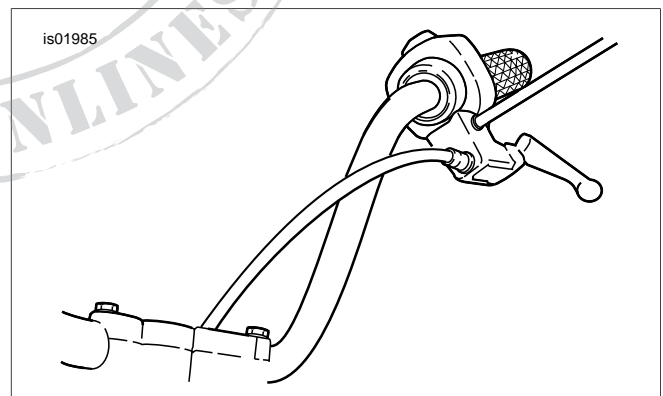

Figure 1. New Clutch Cable Routing
- See Figure 1. Reroute clutch cable to the inside of the handlebars and reconnect clutch cable to clutch lever.